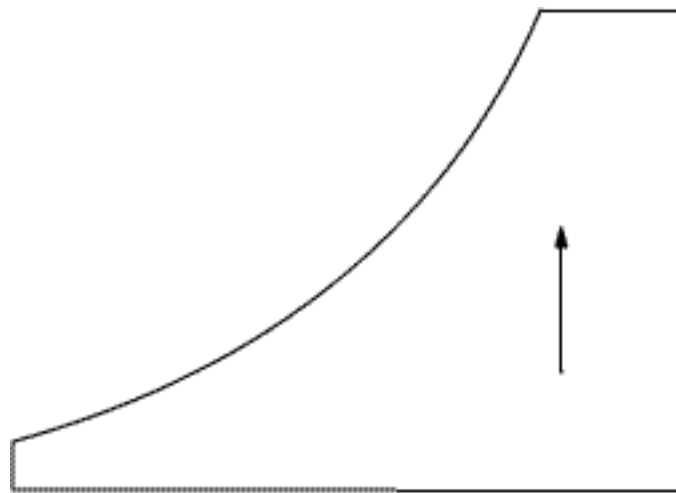

Figure 3.5. Addition of moisture to the air
3. Humidifying: is the addition of moisture to the air. The only property that does not change is the dry-bulb temperature. The added heat is used to evaporate the moisture. The wet-bulb temperature, dew point and relative humidity increase. (Figure 3.5)